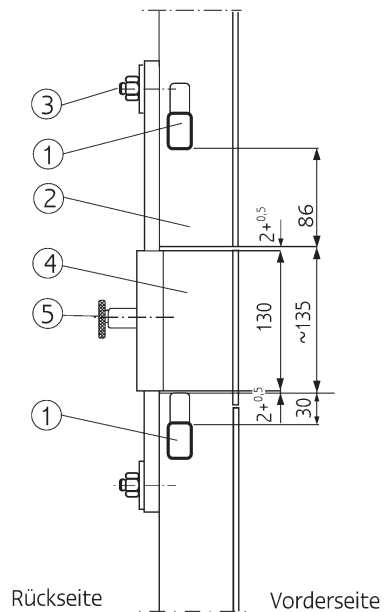

Fig. 1: Extraction cover for model 6434
2. Extraction cover - installation [fig 1]
At the designated location cut out with accurate dimension a 135 mm long piece of the running rail for anti-fall device [2] (measured 30 mm above the bottom rung - [fig 1]). Even up and clean cutting areas in correct angle, trim edges.
6.1 In order to use the extraction cover, press backwards the release pin (5) that is positioned on the back (see fig. 1). Thus the extraction cover can be rotated to the right and the mobile device can be either inserted or removed.